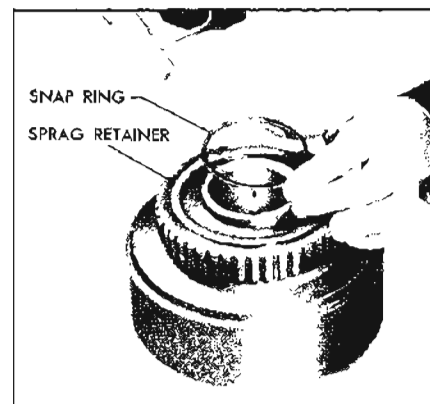

Figure 5-623
1. Remove sprag retainer snap ring and retainer. See Figure 5-623.